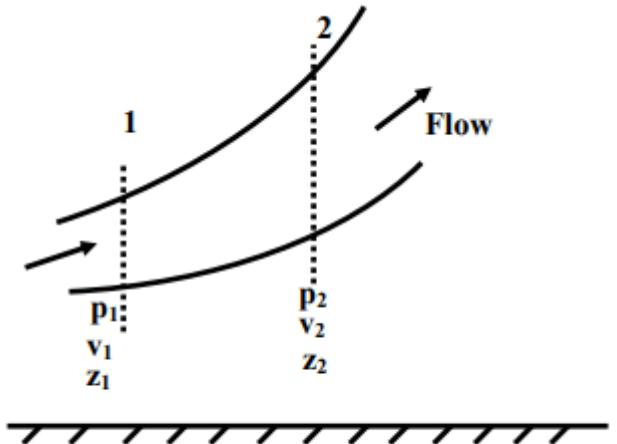

Fig. 1 Flow through a varying cross section
- We consider the fluid flow through a closed channel of variable cross section, as shown in fig. 1. The channel is of varying cross section and we consider two cross sections of the channel, 1 and 2.